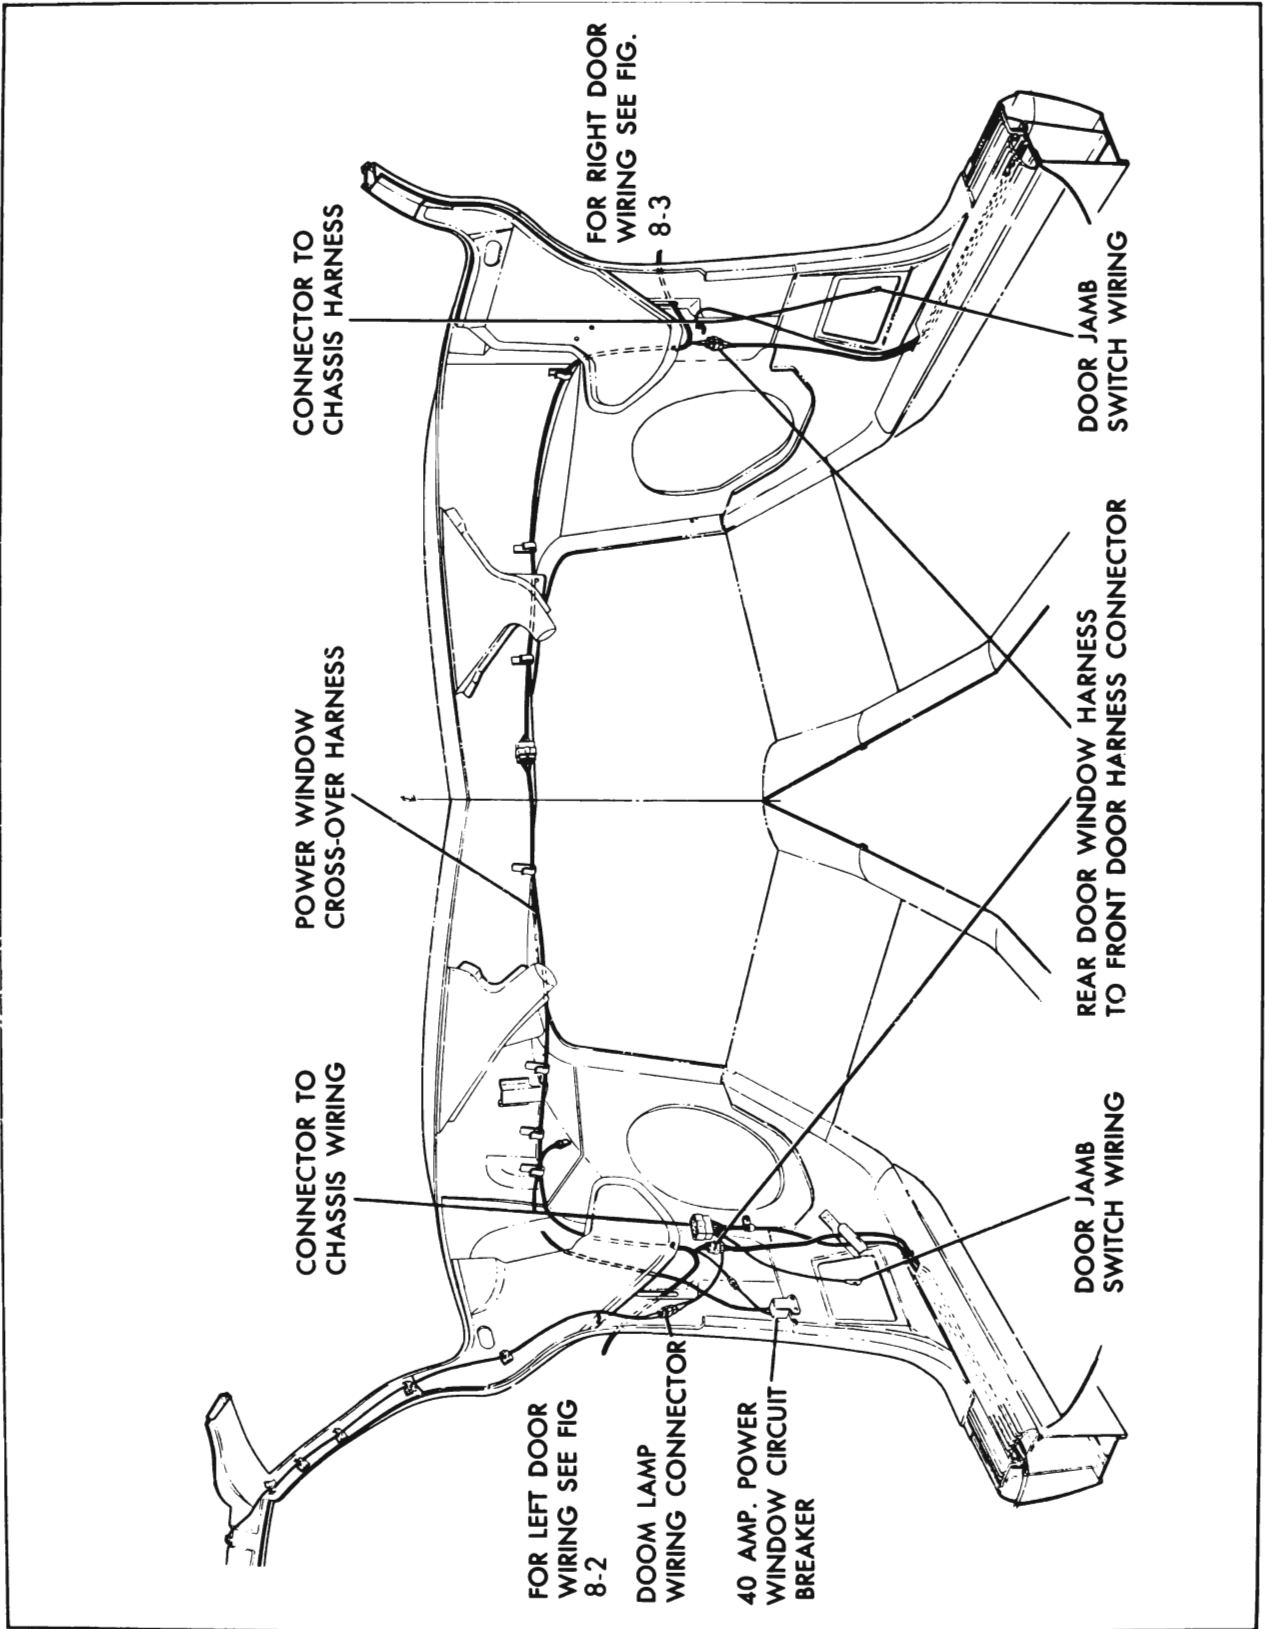

Figure 8-1—Front Power Window and Body Wiring
1. **Front Cross-Over Harness** - This harness is installed beneath the instrument panel and completes the circuit from the right door to the left door windows. The front harness also includes the wiring for the front door windows. See Figure 8-1. The multiple connector located at the center of the front harness is used only for manufacturing purposes and is not intended to be disengaged in service.